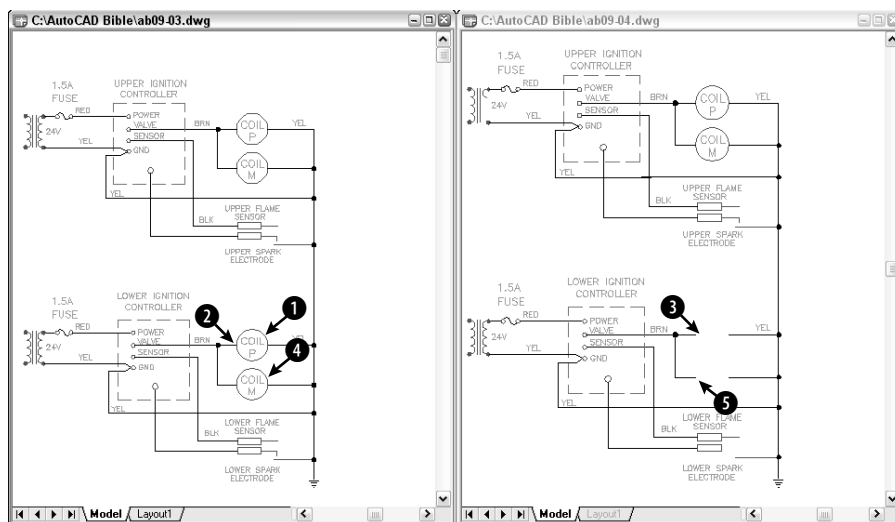

Figure 9-7: To copy objects from one drawing to another, display them both on the screen together. (The drawings may appear reversed on your screen.)
2. Choose **Window** ⇨ **Tile Vertically**. This displays the drawings side by side, as shown in Figure 9-7.
4. Pick the circle at ❶ and the two lines of text inside it.
6. At the `Specify base point:` prompt, pick the endpoint at ❷ in Figure 9-7.
7. Click anywhere in `ab09-04.dwg` to make it the current drawing. Right-click and choose Paste from the shortcut menu. At the Specify insertion point: prompt, pick the endpoint at ③ in Figure 9-7 to paste the objects.
8. Click in `ab09-03.dwg`. Press Esc to clear any grips. Pick the circle at ④ in Figure 9-7. (Don't include the text this time.) Click again and hold the mouse button on the circle, but not on the grips, until you see the pointer arrow with the rectangle. Drag the circle to ⑤ in Figure 9-7. As you can see, you have no way to precisely place the circle.
9. Click in `ab09-03.dwg` again. This time pick both lines of text inside the circle at ④. Right-click and choose Copy with Base Point. At the Specify base point: prompt, pick the endpoint at the left quadrant of the circle.